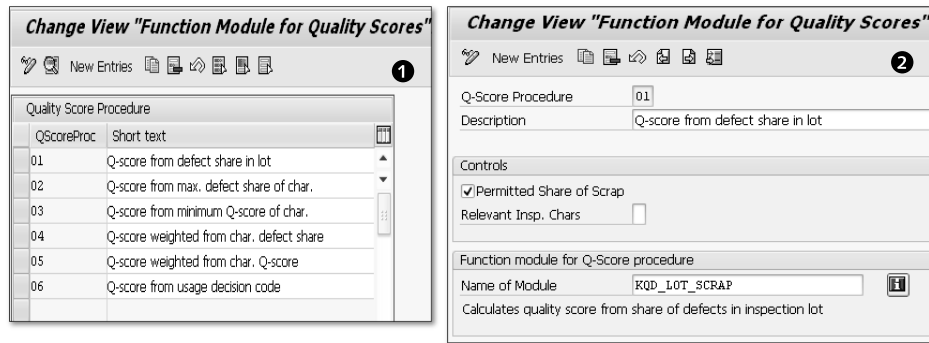

Figure 3.73 Quality Scores
Figure 3.73 ❶ shows the available standard options. Chose QUALITY SCORE PROCEDURE 01 in ❶, and it leads ❷. Notice that a function module is assigned to undertake the necessary calculation for the quality score procedure. The checkbox PERMITTED SHARE OF SCRAP enables a certain percentage of defects to be considered during quality scores calculation. The field RELEVANT INSP. CHARS provides an option to define whether the results of MICs are considered for quality score calculation, especially if the MICs are closed and valued.